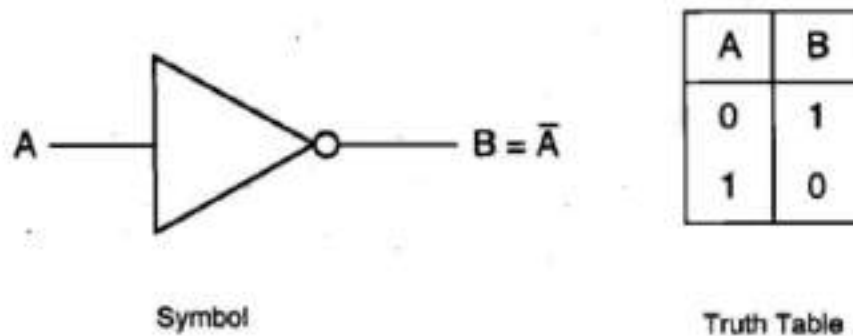

Fig.1 Logic symbol and truth table of the inverter
- The logic symbol and the truth table of the ideal inverter are shown in Fig. 1.